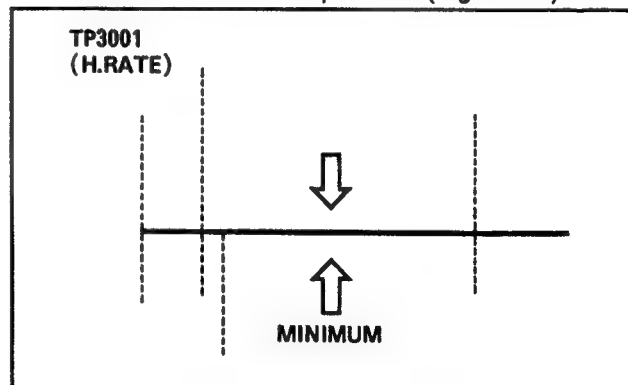

Figure E2
3. Adjust VR3001 so that the video level becomes minimum as much as possible (Figure E2).